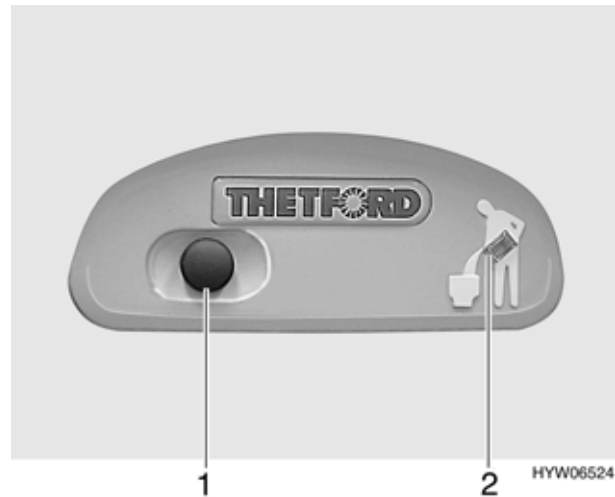

Fig. 150 Flush button/indicator lamp Thetford cassette
- For flushing, press the blue flush button (Fig. 150,1).
The indicator lamp (Fig. 150,2) lights up whenever the Thetford cassette must be emptied.